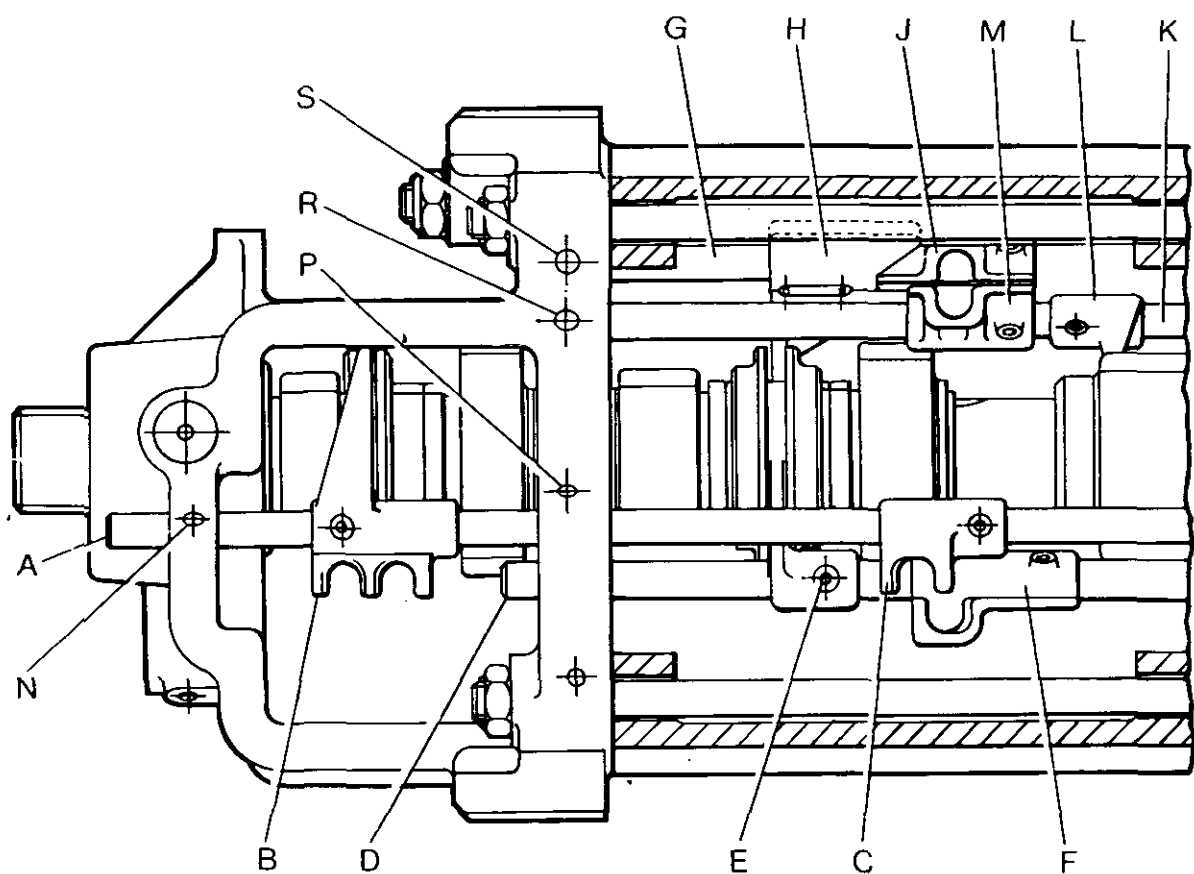

FIGURE 78. ARRANGEMENT OF SELECTORS
5. Remove the pin which fastens the slow/normal selector fork to the selector rod. See Figure 78.